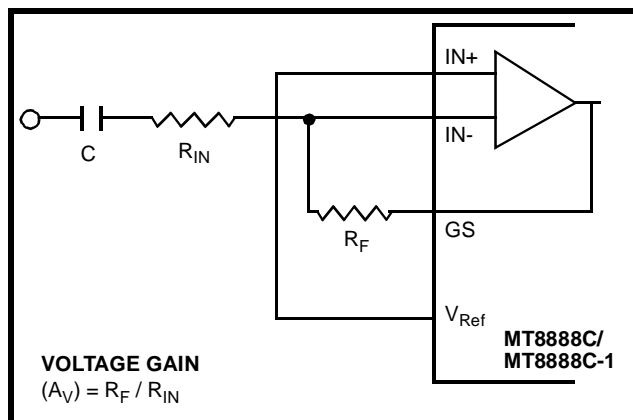

Figure 3 - Single-Ended Input Configuration
The input arrangement of the MT8888C/MT8888C-1 provides a differential-input operational amplifier as well as a bias source (V_{Ref}), which is used to bias the inputs at $V_{DD}/2$. Provision is made for connection of a feedback resistor to the op-amp output (GS) for gain adjustment. In a single-ended configuration, the input pins are connected as shown in Figure 3.